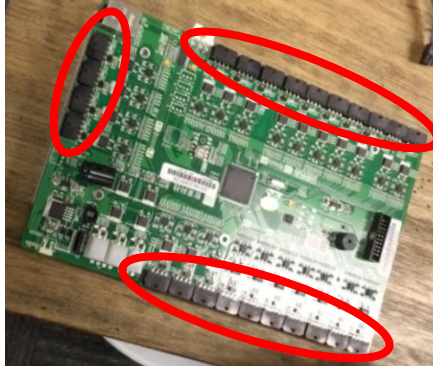
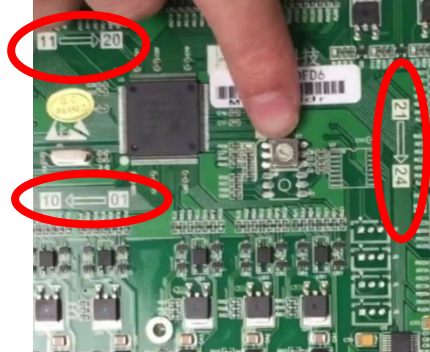

Figure 22
Figure 23
- 9 **VERIFY ONLY:** Next, verify the wires are properly connected to the door number represented in the tower. Each board contains 24 ports for doors (Figure 22). Ports are labeled with numbers 1-10, 11-20, and 21-24 (Figure 23). Ensure the wires for each door lead to the corresponding door number they represent on the board.